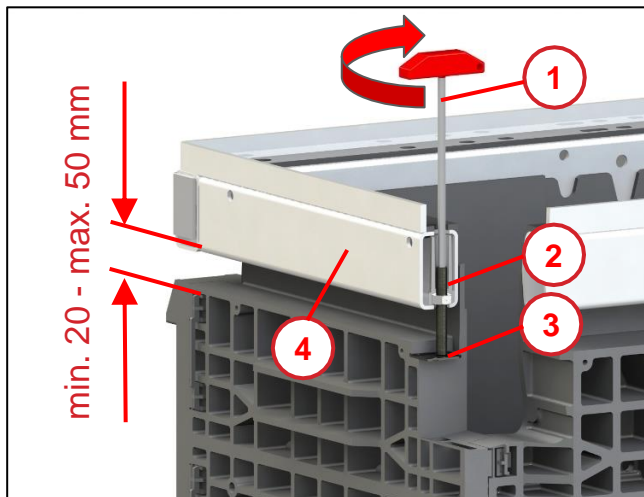

Fig. 37
- Place the steel frame (1) back on the manhole.
- **Note:** Push the set screws (2) from the earlier height adjustment through the dry mortar (3) while it is still soft, until they are back in contact with the support plate (see Fig. 37 - item 3).